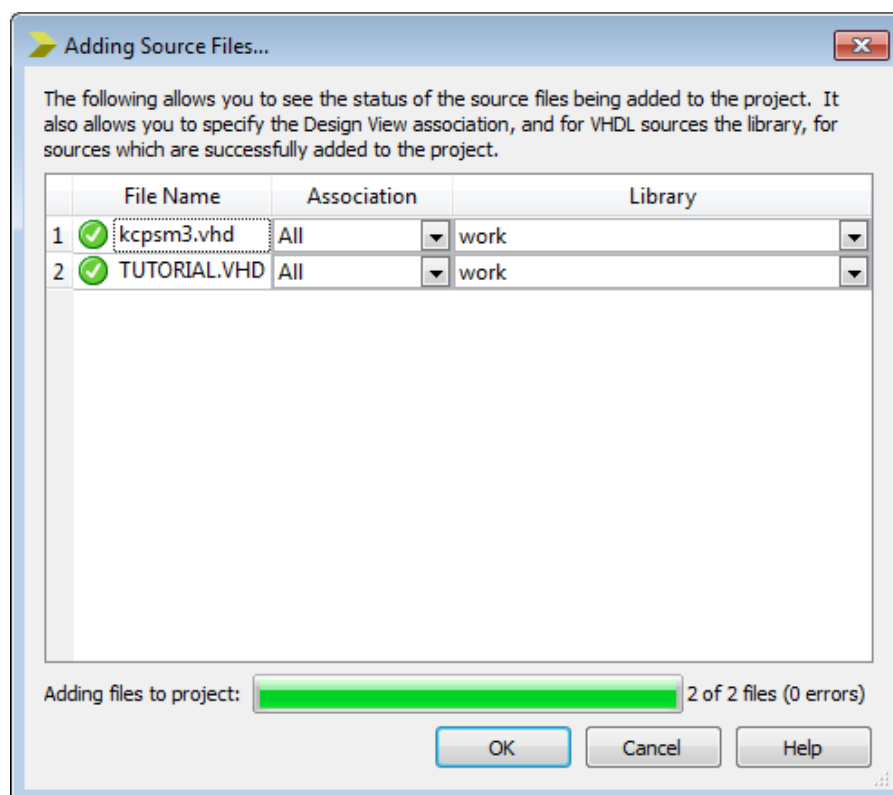

Figure 5.7: Adding Source Files window.
3. The **Adding Source Files** window will now appear as shown in Figure 5.7, showing the two files selected to be added to the project. Click OK.